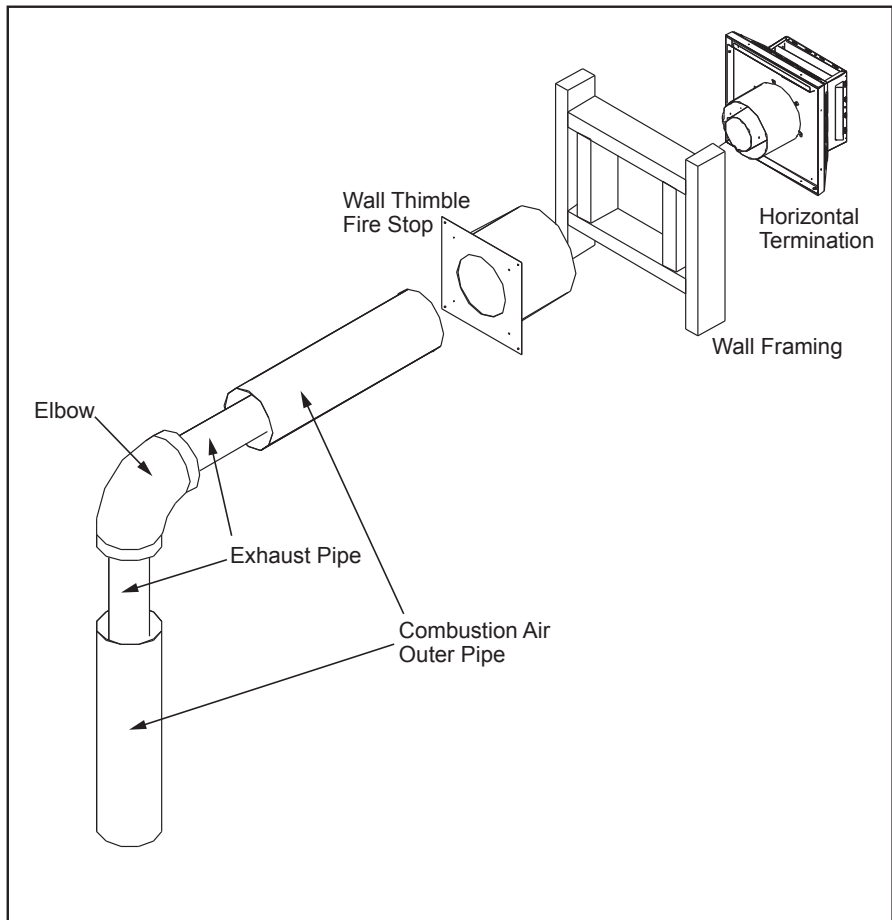

Figure 47. Horizontal Vent Termination
- Step 4.** Measure roof pitch. Select the proper flashing and storm collar and determine the height above the roof (see Figure 47). A non-corrosive pipe material must be used for all exterior pipe lengths. Seal nail heads with silicone.